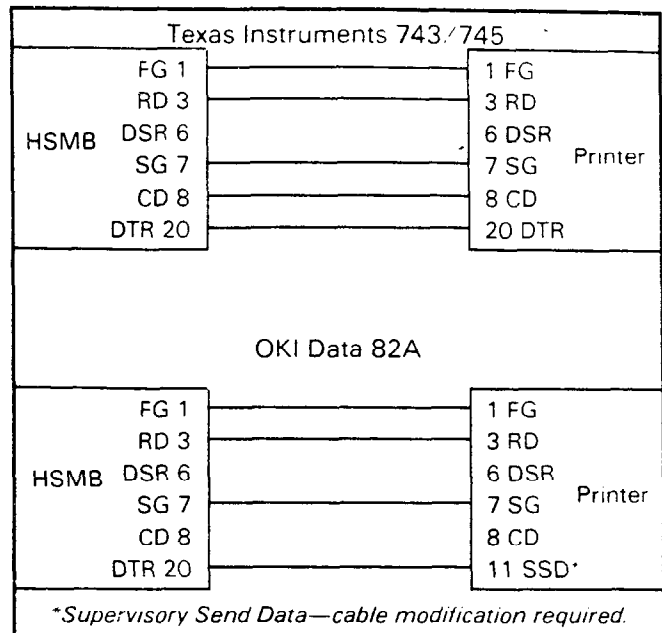

FIGURE 21
06.72 The data output is in 7-bit ASCII code with one start bit, one parity bit (even parity) and one stop bit. Figure 21 shows the detailed connections for the printers listed above.